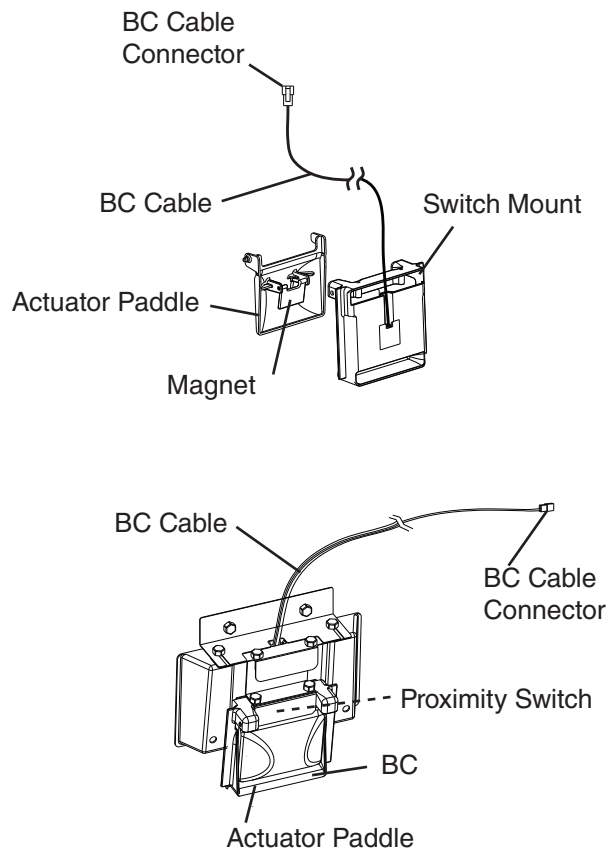

Fig. 2
- 6) Remove the actuator paddle from the switch mount. See Fig. 2.